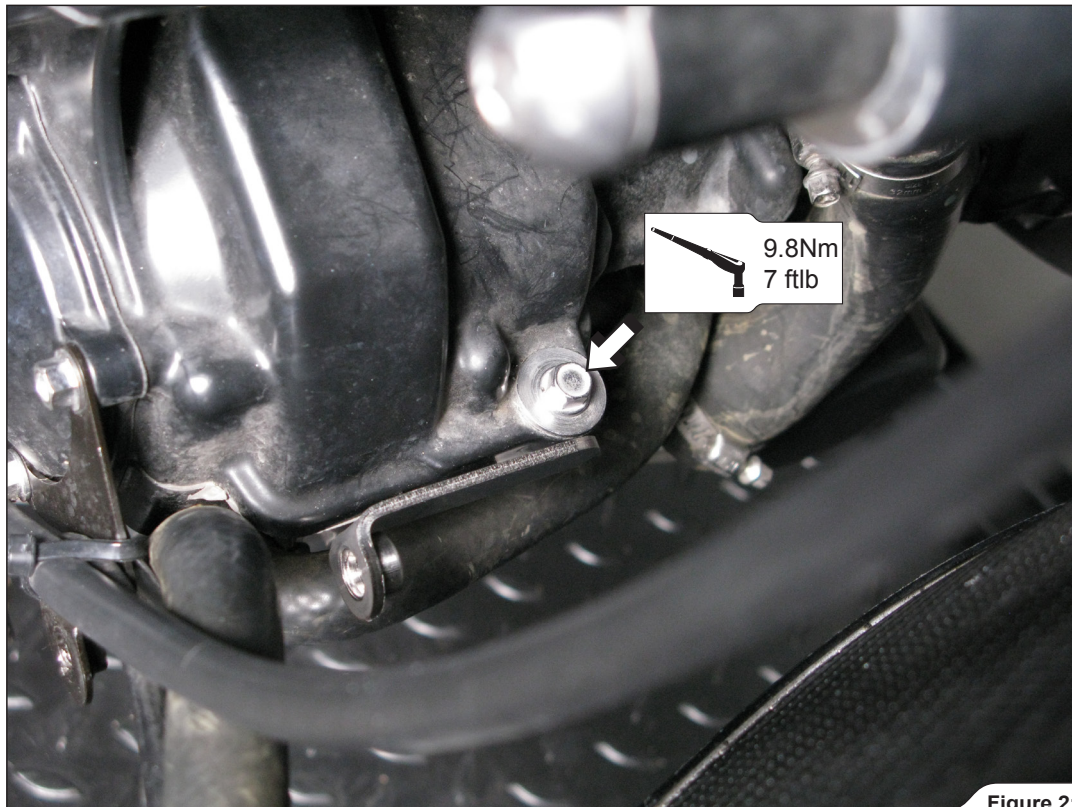

Figure 21
1. **For Racing exhaust system only:** attach the first part of the Akrapovič radiator bracket onto the engine block, using original bolt (Figure 21).